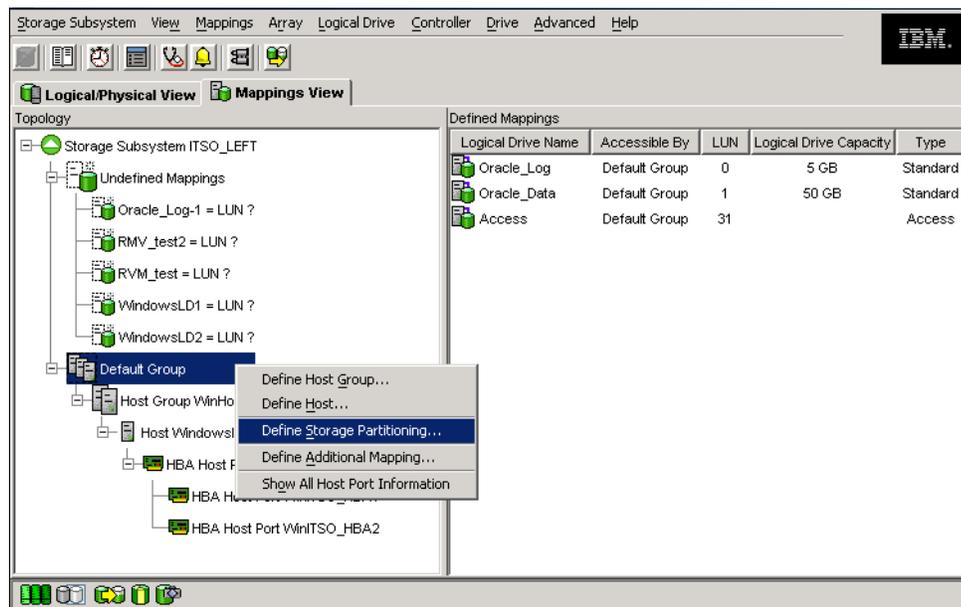

Figure 5-67 Define storage partitioning
1. We start by creating a storage partition by assigning the logical drives to the hosts or host groups. The storage partitioning wizard leads you through the process, and you initiate it by right-clicking **Default Group** and selecting **Define Storage Partitioning**. We show an example in Figure 5-67.